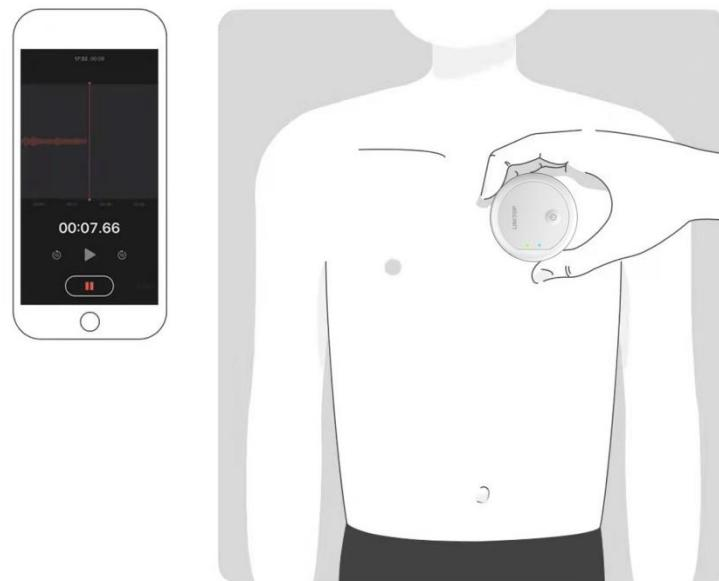

Figure 4
- (1) Use an Android phone to download the "NexStetho" application from Google Play or use an iPhone to download the "NexStetho" application from the APP Store.
- (2) Please make sure that the Bluetooth of the mobile phone is open, and the stethoscope is turned on.
- (3) Launch the "NexStetho" application, click "Add Device", the application will search for the Bluetooth of the stethoscope until it finds a device with the Bluetooth name "HC-21", select and connect, the application will automatically bind the stethoscope.
- (4) Use the application to select the auscultation mode and confirm whether to use the heart sound auscultation or lung sound auscultation mode.
- (5) Select the auscultation site and confirm whether to auscultate the lung or the heart.
- (6) Putting the stethoscope membrane (Figure 4) to the patient's body at specific spots indicated by the doctor, and holding it at each spot, click the start button in the application to record until the auscultation time is sufficient, click the stop button to end the recording.